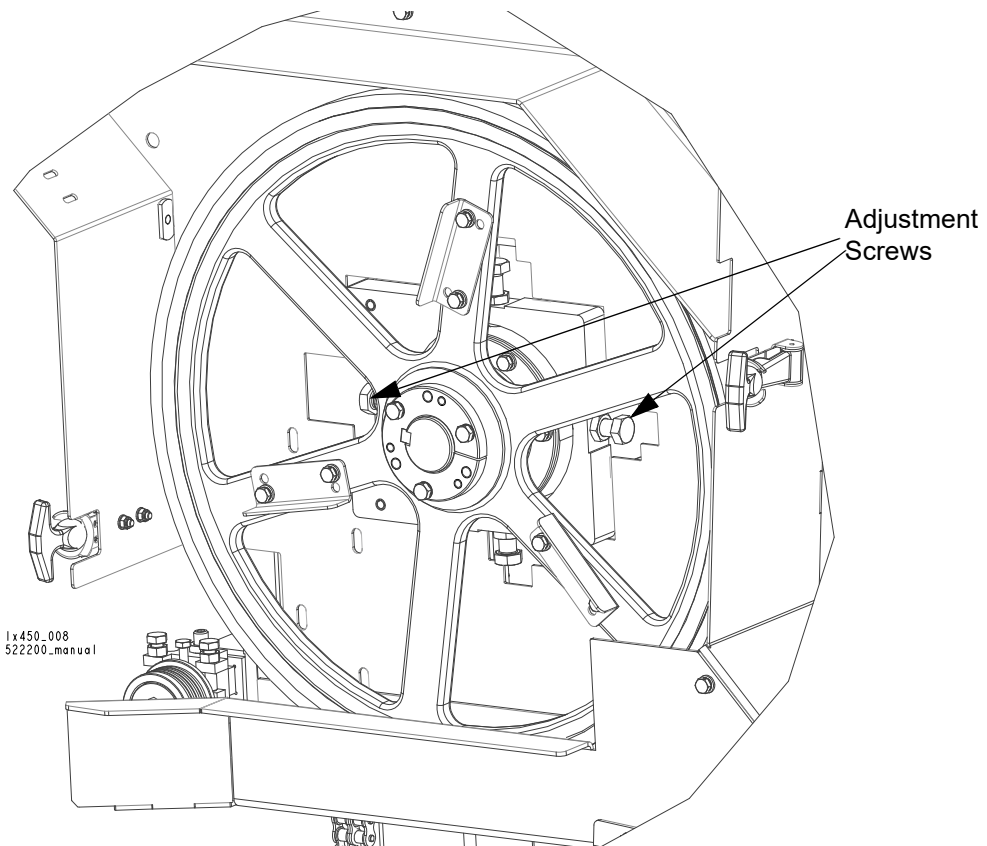

FIG. 5-9
**See Figure 5-9.** Loosen the jam nut on the adjustment screws. Use the horizontal adjustment screws to adjust the drive-side blade wheel. Tighten the jam nut.